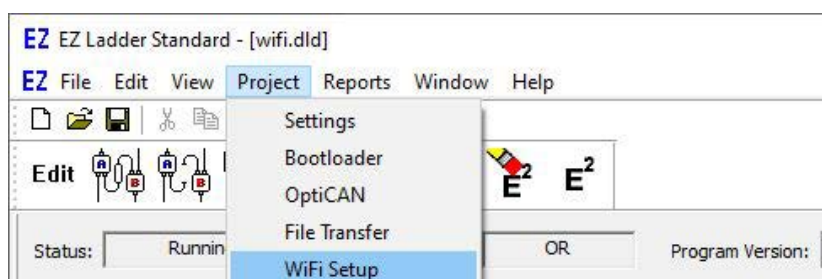

Figure 19-14
4. From the menu at the top, select **Project** then select **WiFi Setup**. Refer to Figure 19-14.